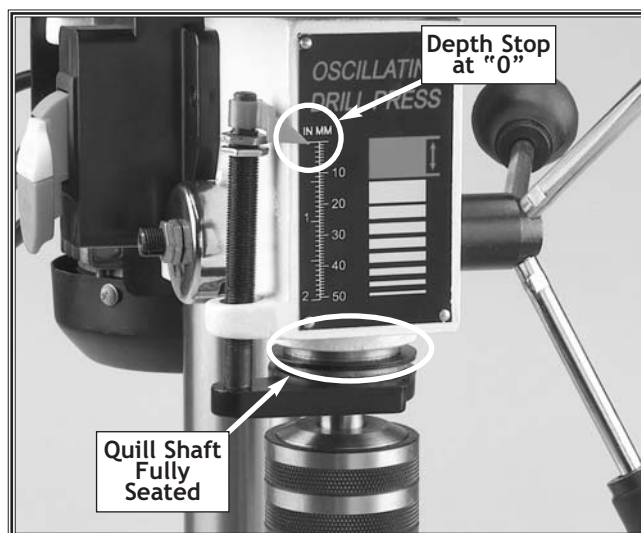

Figure 19. Quill shaft fully seated.
3. Make sure the quill shaft is completely seated and the depth stop reads "0". See Figure 19.
4. Put on thick leather gloves and hold the spring cover against the side of the head-stock so the cover stays splined with the locking lug; remove the jam nut and loosen the cover nut approximately $\frac{1}{4}$ " (6.4mm). See Figure 19.